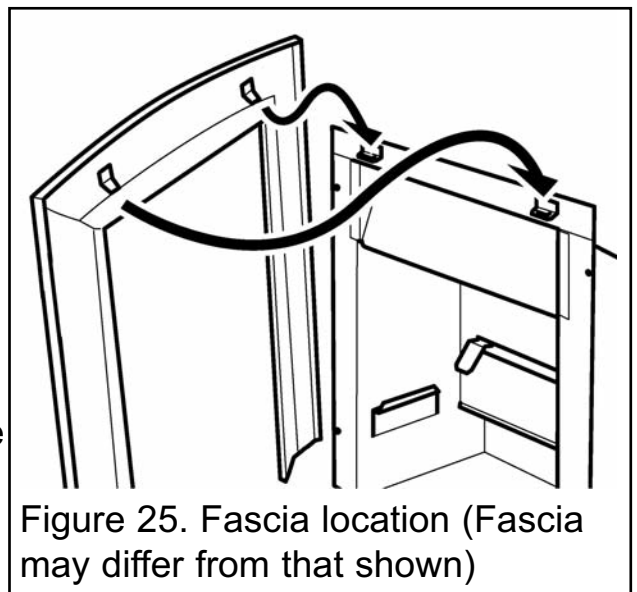

Figure 25. Fascia location (Fascia may differ from that shown)
2. Carefully lift the fascia. Place the fascia against the fireplace front surface so that the two retaining plates at the back of the fascia are directly above the two upper retaining brackets at the top of the hotbox. Lower the fascia unit making sure that the retaining plates locate fully into the brackets on the hotbox (See figure 25). If the inlet pipe runs along the front of the fireplace, the bottom of the fascia will have to be swung forward to clear the pipe while lowering the fascia.
1. Carefully lift the fascia. Place the fascia against the fireplace front surface so that the two retaining plates at the back of the fascia are directly above the two upper retaining brackets at the top of the hotbox. Lower the fascia unit making sure that the retaining plates locate fully into the brackets on the hotbox (See figure 25). If the inlet pipe runs along the front of the fireplace, the bottom of the fascia will have to be swung forward to clear the pipe while lowering the fascia.